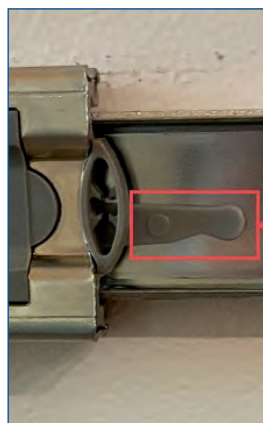

Fig. 3
2. Remove all drawers. Start by pulling the top drawer out all the way. You will see tabs (Fig. 3) on both the left and right drawer slide. Press the left side up and the right side down, while pulling out on the drawer. The drawer should pull completely out. Follow the same process for all drawers.